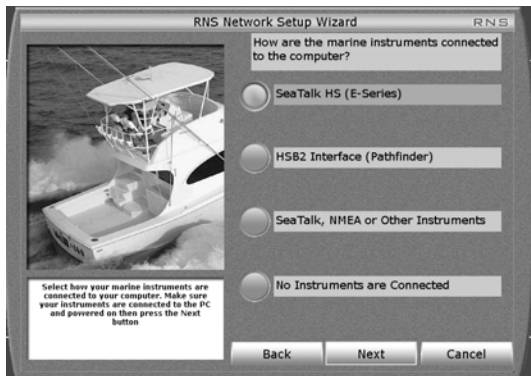

Figure 3-4: RNS Network Set up Wizard
2. Click *Onboard*. The RNS Network Setup Wizard appears - *Figure 3-4 on page 17*.